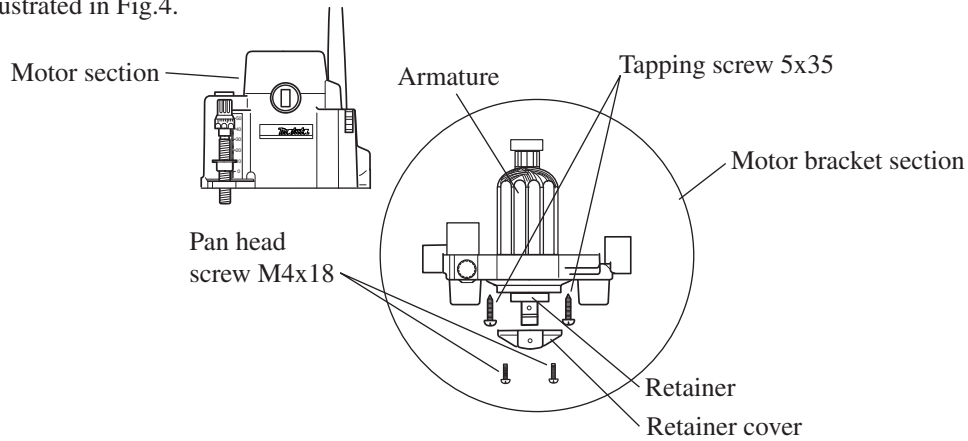

Fig.4
- (8) Remove retainer cover by taking off 2 pcs. of pan head screw M4x18 as illustrated in Fig.4.
(9) Separate motor bracket section from motor section by taking off 4 pcs. of tapping screw 5x35 as illustrated in Fig.4.